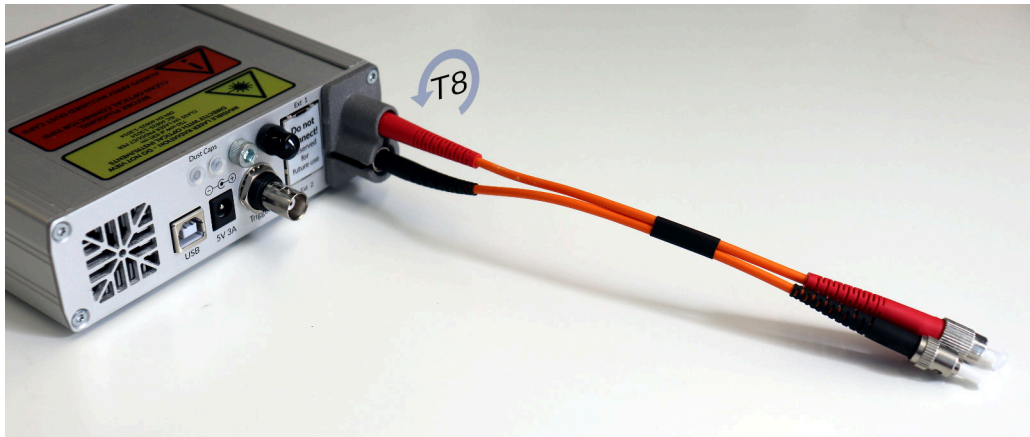

Figure 9: Rear view of CI-250 Computer Interface with short fiber optic cable fixed to its housing
- In case of a burn-in defect at the CI-250 Computer Interface, experienced users may remove and replace the short orange fiber cable attached to the computer interface shown in Figure 9. Please contact LUMILOOP for detailed instructions. Computer interfaces without this short cable and associated cover can be refitted for improved system reliability. For older systems the sacrificial cable is attached directly to the computer interface. Please contact LUMILOOP support for more information.